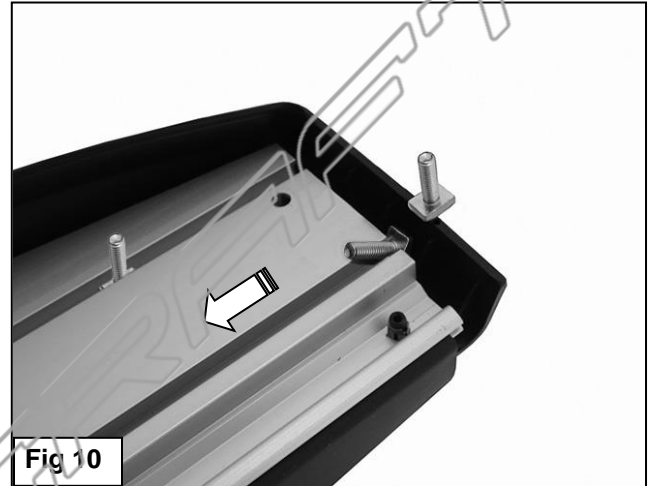

Fig 10
- Carefully unwrap the Running Boards. From either open end, slide (3) T-Bolts into each channel in the bottom of the Running Board, **(Figure 10)**. Slide the T-Bolts forward or back to line up with the slots in the (2) previously installed Mounting Brackets. Hold the Running Board
up to the vehicle at a slight angle and gently push it into position against the rocker panel. Insert the T-Bolts through the slots in the Brackets, **(Figure 10)**.